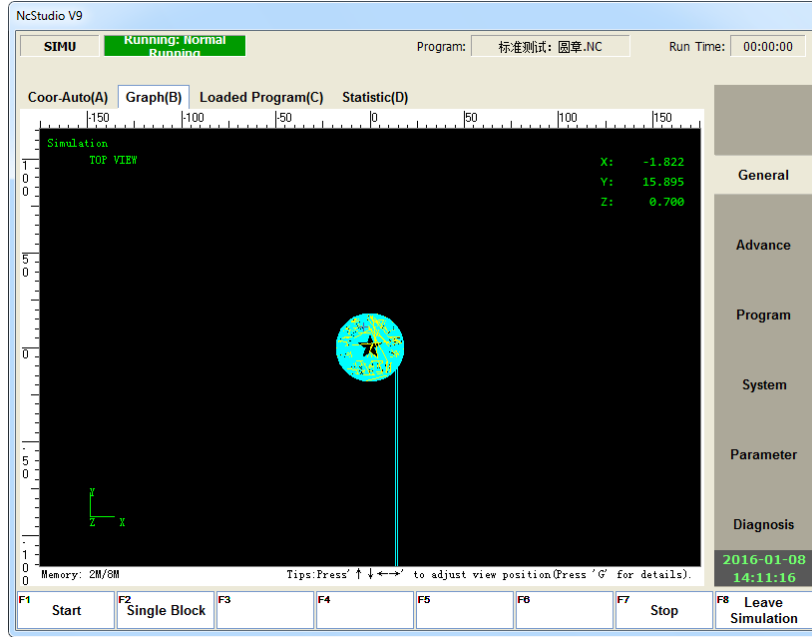

Fig. 3-42 Interface Graph in Simulation Mode
- 2) Press SF1 to enter functional area **General** and then F1 **Simu On** to begin simulation, and then press letter key B to enter interface **Graph** to view the simulated track, as shown in Fig. 3-42.